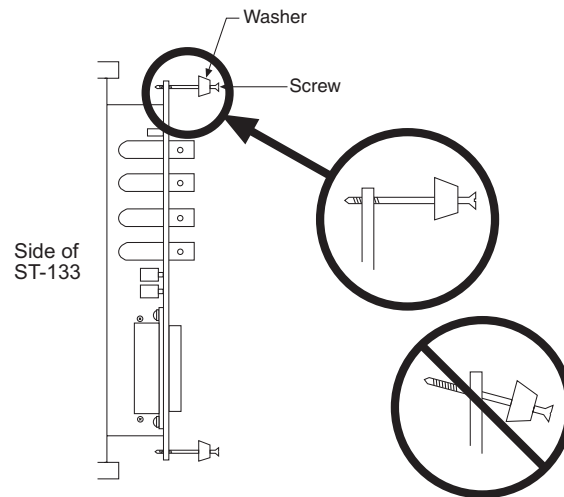

Figure 44. Module Installation
3. Rotate the two locking screws counterclockwise until the threads on the screws engage those of the module panel. *See Figure 44.* By doing this, the screws will be perfectly perpendicular to the module panel and will align perfectly when the module is inserted.